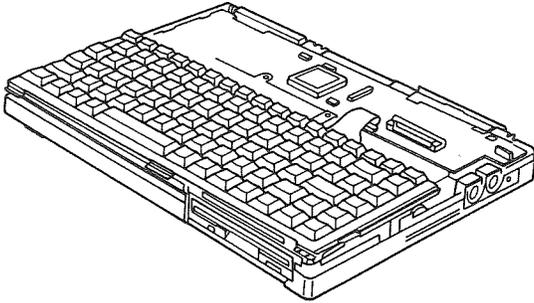
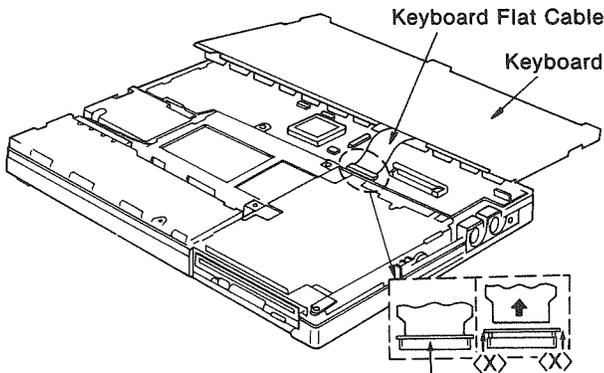

Figure 13
Figure 14 Keyboard Connector
- (1) After removing the top case (Figure 13), turn over the keyboard and then disconnect keyboard connector as shown in Figure 14.
Note: The flat cable can be removed by sliding its connector in the direction of <X> as shown in Figure 14.